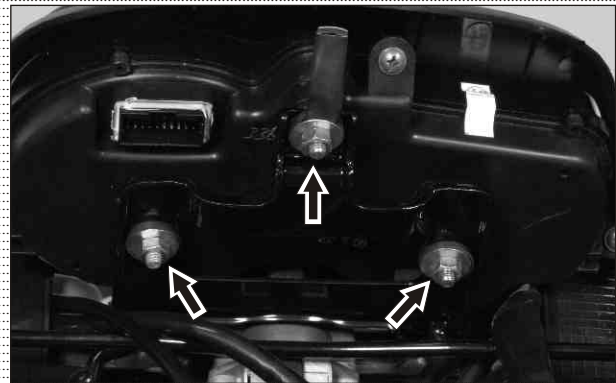

Fig. 5.49
- Loosen and remove hexagonal nuts (A) (M6 - 3nos) along with the plain washer from the speedometer assembly mounting. (Fig. 5.49)